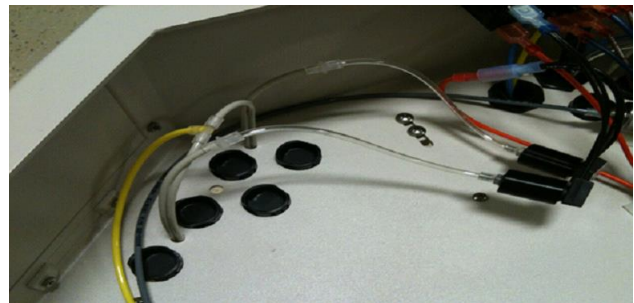

Fig. 1
Attach tubing to holders. The tracer tubing goes to the back barb on the holder, and the non-tracer to the front. Press on sleeves. (Fig. 1)
6. Tee the yellow tubing from air/electric switch assembly to main air using two large sleeves. (Fig. 1)